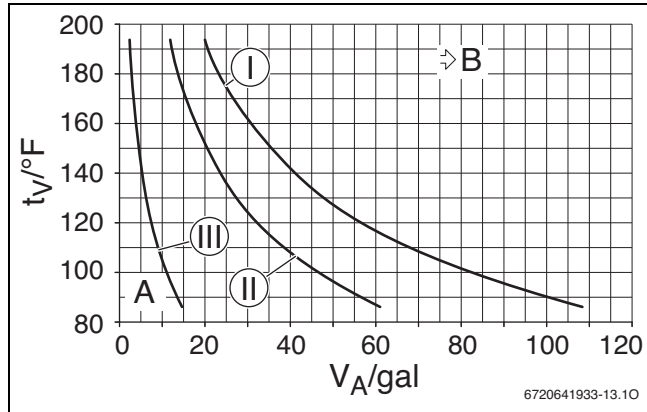
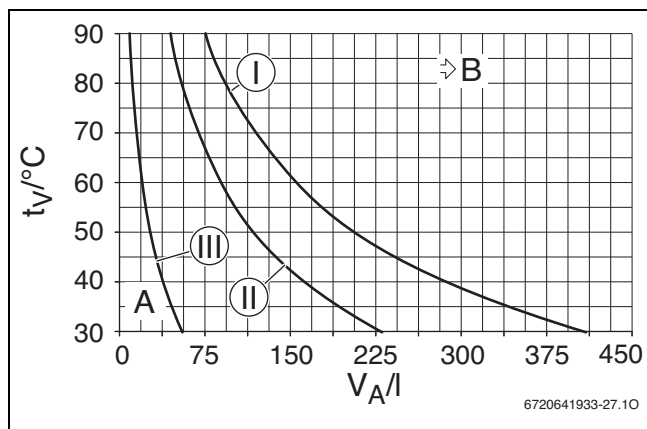

Fig. 16 Operating capacity of the expansion vessel in °F and gallons
Fig. 17 Operating capacity of the expansion vessel in °C and liters
**Key to Fig. 16 and Fig. 17:**